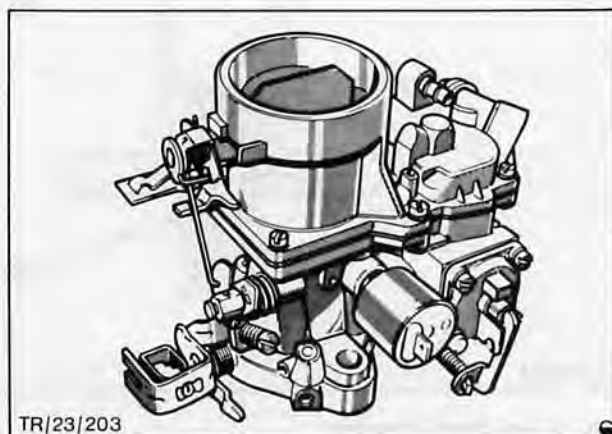

Fig. 13. Motorcraft manual choke carburettor (By-pass idle)
6. Adjust idle speed screw to achieve correct idle RPM, Fig. 13. (Refer Technical Data Section.)